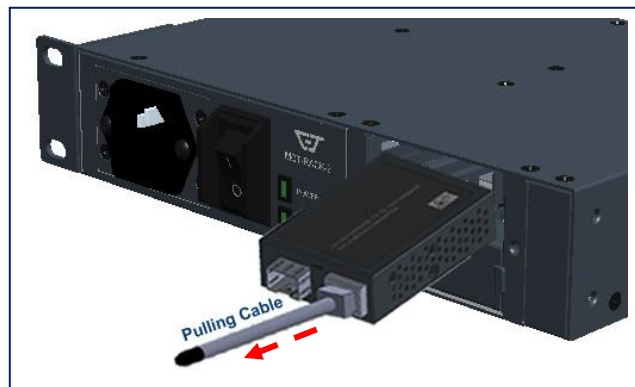

Figure 2-5
- ⑦ To pull out the module, you may connect the supplied pulling cable with the RJ-45 connector of the slide-in media converter module to pull it out more easily if needed. (See Fig. 2-5.)